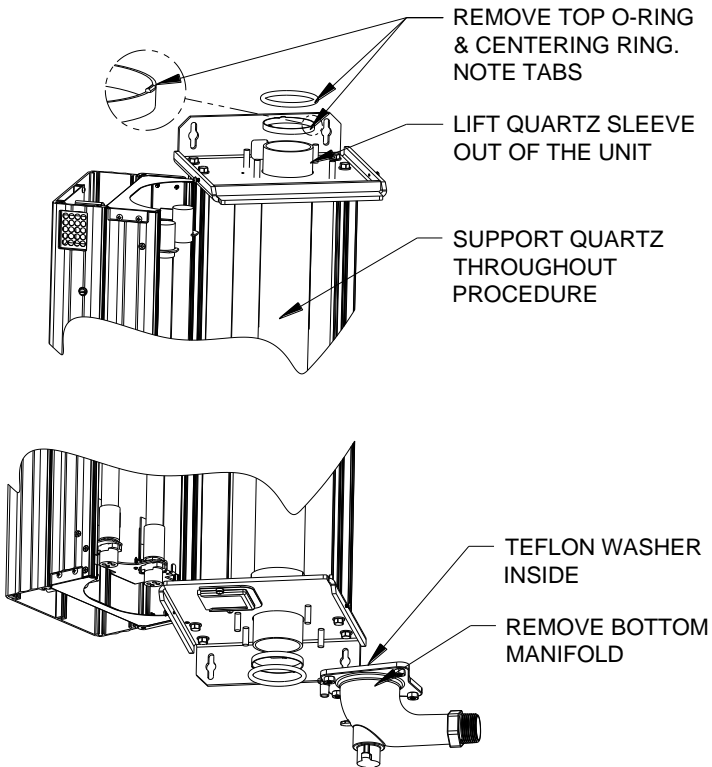

Figure 7.7
**Step 4:** If the quartz sleeve is still not clean, it requires replacement. This is done by removing the bottom manifold (see Figure 7.7). Replacing a quartz sleeve is easier when the unit is placed on a horizontal surface – removing the unit from the wall to work on a bench is recommended, especially for the Hallett 1000 models.
**Step 9:** Replace the bottom manifold (see Fig. 7.7) by installing the four nuts in an alternating pattern (top left, bottom right, bottom left, then top right). Check again for Teflon washer.